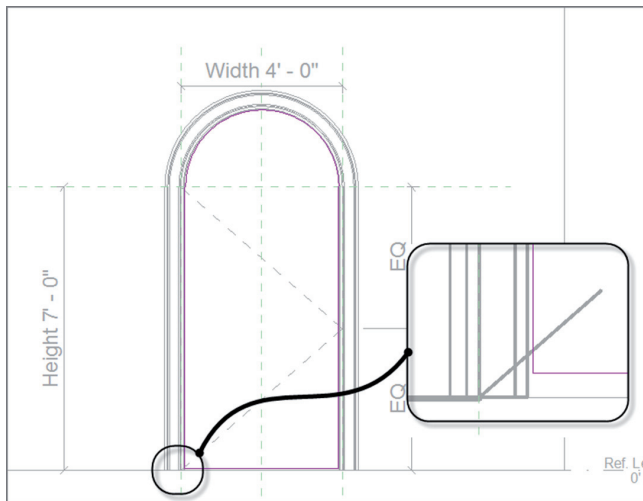

FIGURE BC2.24: Adding the door
8. Offset the bottom up (see Figure BC2.24).